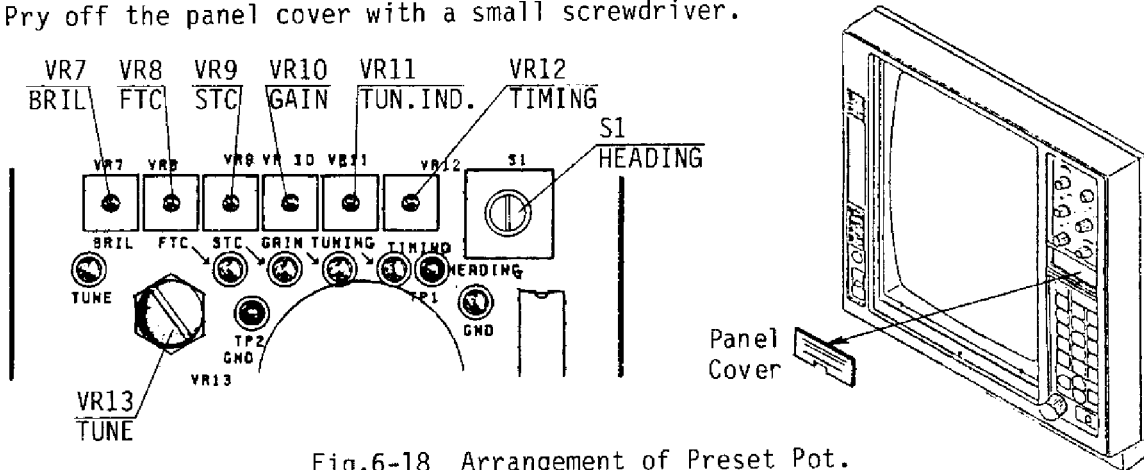

Fig.6-18 Arrangement of Preset Pot.
- 3) Adjust VR13 (TUNE) so that a comparatively weak long range echo is discerned with maximum definition. See Fig.6-18 for the location of VR13.
- 4) Adjust VR11 (TUN.IND) so that four tuning markers of the tuning bar light up with the fifth marker blinking. See Fig.6-18 for the location of VR11.
The minimum brightness of the CRT can be adjusted to suit operator's needs, by adjusting VR7 (BRIL). See Fig.6-18 for its location.
Adjustments of preset gain, A/C sea and A/C rain are shown in this section. If the radar does not meet the following conditions, adjust corresponding preset potentiometers VR10 (GAIN), VR9 (STC) and VR8 (FTC). See Fig.6-18 for its location. Set the controls as below.